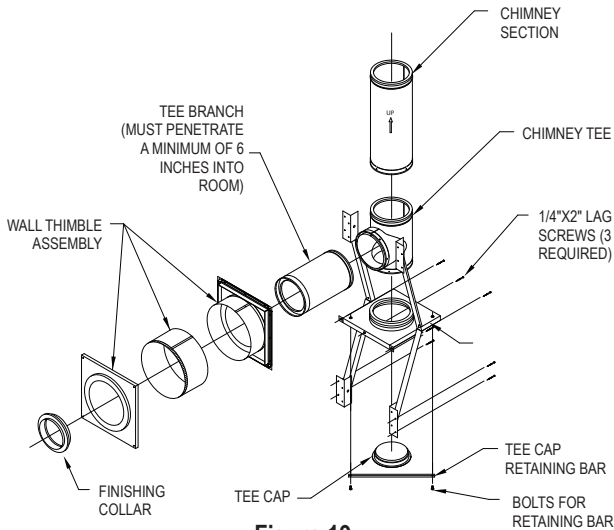
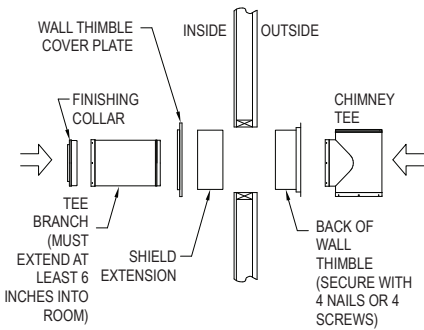

Figure 19
Figure 20
shield. On the outside wall, install the back portion of the Wall Thimble. Center the back portion of the Wall Thimble (with shield inside wall) in the framed opening of the outside wall. Be sure to seal the flange of the Wall Thimble around the wall by using a non-hardening waterproof sealant. Attach the back portion of the Wall Thimble to the outside wall using at least (4) 8-penny nails or (4) 1-1/2” wood screws (**Fig 20**). Depending on the thickness of your wall, you will need to adjust the shield extension to insure that you have a continuous shield throughout the wall penetration. Adjustments can be made by sliding the extension in or out of the back portion of the shield. Verify that the shield extension reaches the front cover plate when the cover plate is in position. Do not install cover plate at this time. When the shield extension is in position, secure it to the back portion of the shield using (4) sheet metal screws (**Fig 20**).
Support so that the chimney Tee will be centered inside the Wall Thimble (**Figs 19 & 20**). Important: Verify that Tee Support is level, then secure Tee Support to outside wall using (3) 1/4" x 2" long lag screws for the support base, and (8) #8, 2-1/2" wood screws for the brackets (2 screws per bracket). Be sure to keep the Tee Support level.
Important: The Chimney section used to penetrate through the wall must extend at least 6" into the room. Secure the Chimney Branch to the Tee by using the (6) sheet metal screws provided. It is very important that a good connection is made between the Branch and the Tee. (**Fig 20 & 21**) Install the Tee Cap in the bottom of the Tee, on the underside of the Tee Support Bracket. Be sure that the Tee Cap is securely inserted into the bottom of the chimney pipe. Secure the Tee Cap in place by attaching the Tee Cap Retainer Bar using the two (2) bolts included (**Fig 19**).